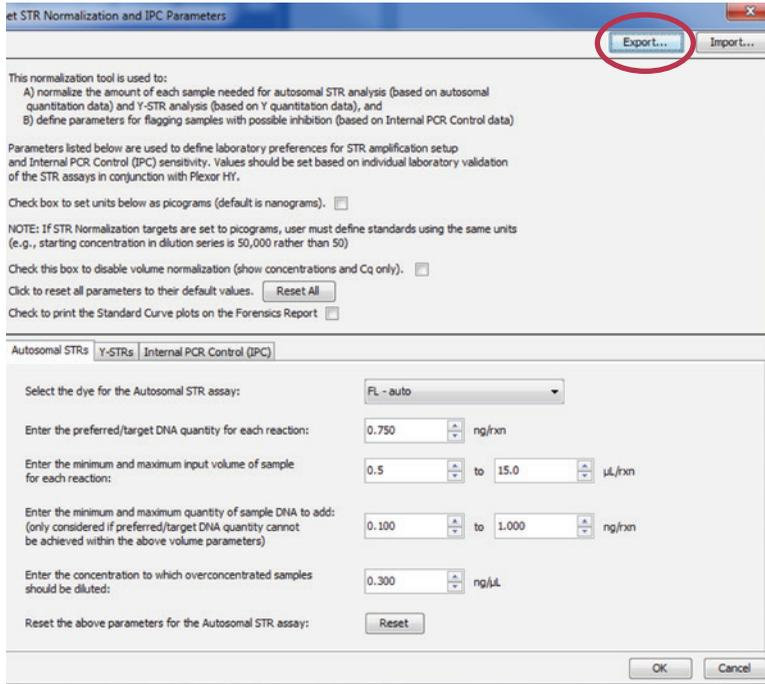

Figure 55. The Set STR Normalization and IPC Parameters screen. Select “Export” and save as Chosen Forensic template.ftp.
12. In the Forensic menu, select Forensics and Set Normalization and IPC Parameters (Figure 55); edit as necessary. Select “Export”, and save as Chosen Forensic template.ftp.